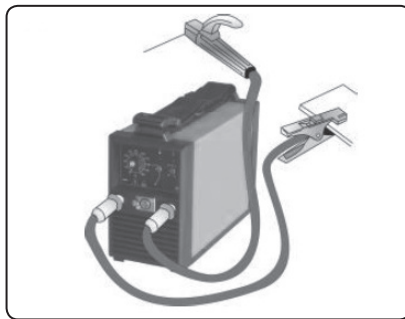

Fig. 8
- 2) Before connecting the inverter to a power source (to a power supply line), first insert the welding cable connectors into the sockets in the inverter and secure them in place by turning them clockwise. Whilst the electrode holder (fig. 8) is connected, in the absolute majority of cases, to the positive pole on the inverter and the grounding clamp is connected to the negative pole. Nevertheless, verify the necessary polarity for the welding electrode according to the manufacturer's instruction on the electrode package since certain acid electrodes are connected to the negative pole.
- 8) Mount a perfectly dry coated electrode stem into the holder (see fig. 8). The electrode must not have a damaged coat. Do not use damaged welding electrodes.